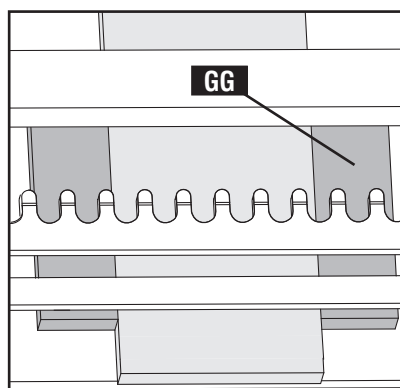

Fig. H21
NOTE: If you clamp scrap boards before making your cuts, make sure the scrap to the left edge of the tenon board is the same width as the scrap (GG) Fig. H21 to the right edge of the dado board. This is to make sure the left edge of the tenon board and the right edge of the dado board are positioned the same distance from the ends of the template before the cuts are made.